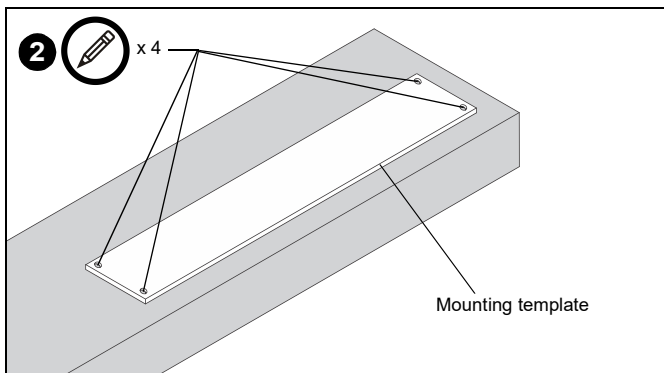

Figure 2
2. Place the template on the floor in the desired location and mark the locations of all four holes. (See Figure 2)